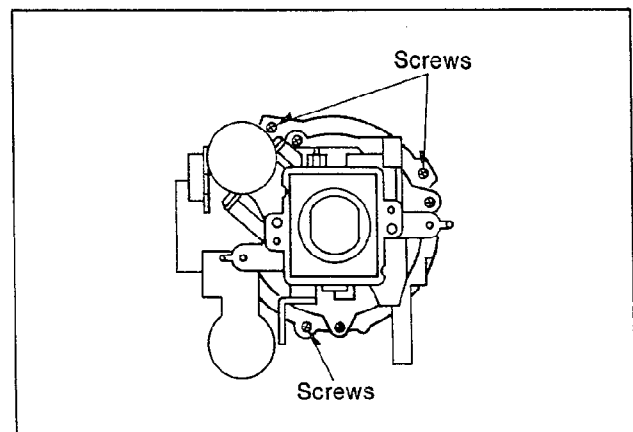

Fig. C2
- (1). Remove the Camera unit from the S-VHS-C Movie.
- (2). Remove the C.B.A. (Camera Process, Auto Focus, Sensor).
- (3). Loosen 2-Screw and remove the Zoom Motor Unit.
- (4). Loosen 3-Screw and remove the Cam Frame, 2ND Moving Frame (Zoom Lens) and the Zoom Guide pole as shown Fig. C2 and C3.